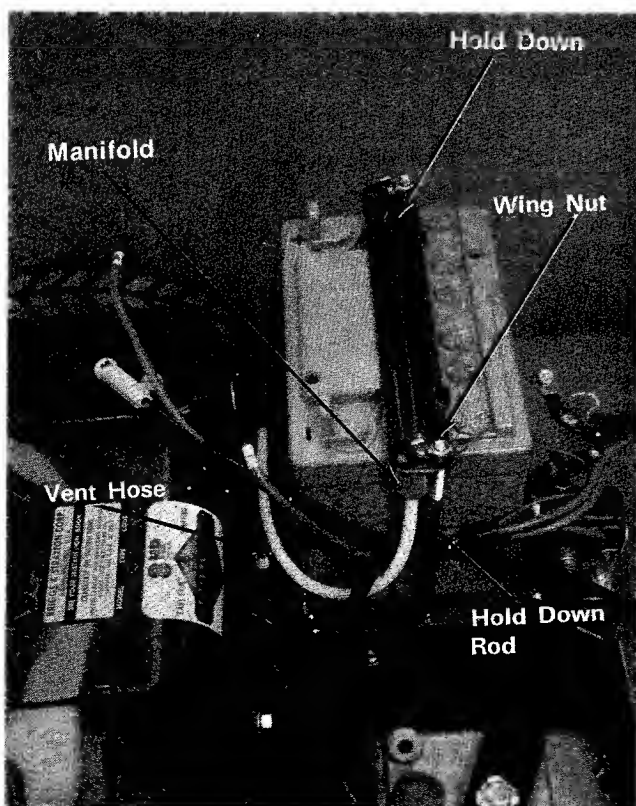

Figure 10
1. Place the battery in the battery box with the Positive terminal on the left. (See figure 10.)
5. Place one end of the battery vent hose into the manifold of the battery and the other end goes through the clip on the left side of the frame. (See figures 10 and 11.)